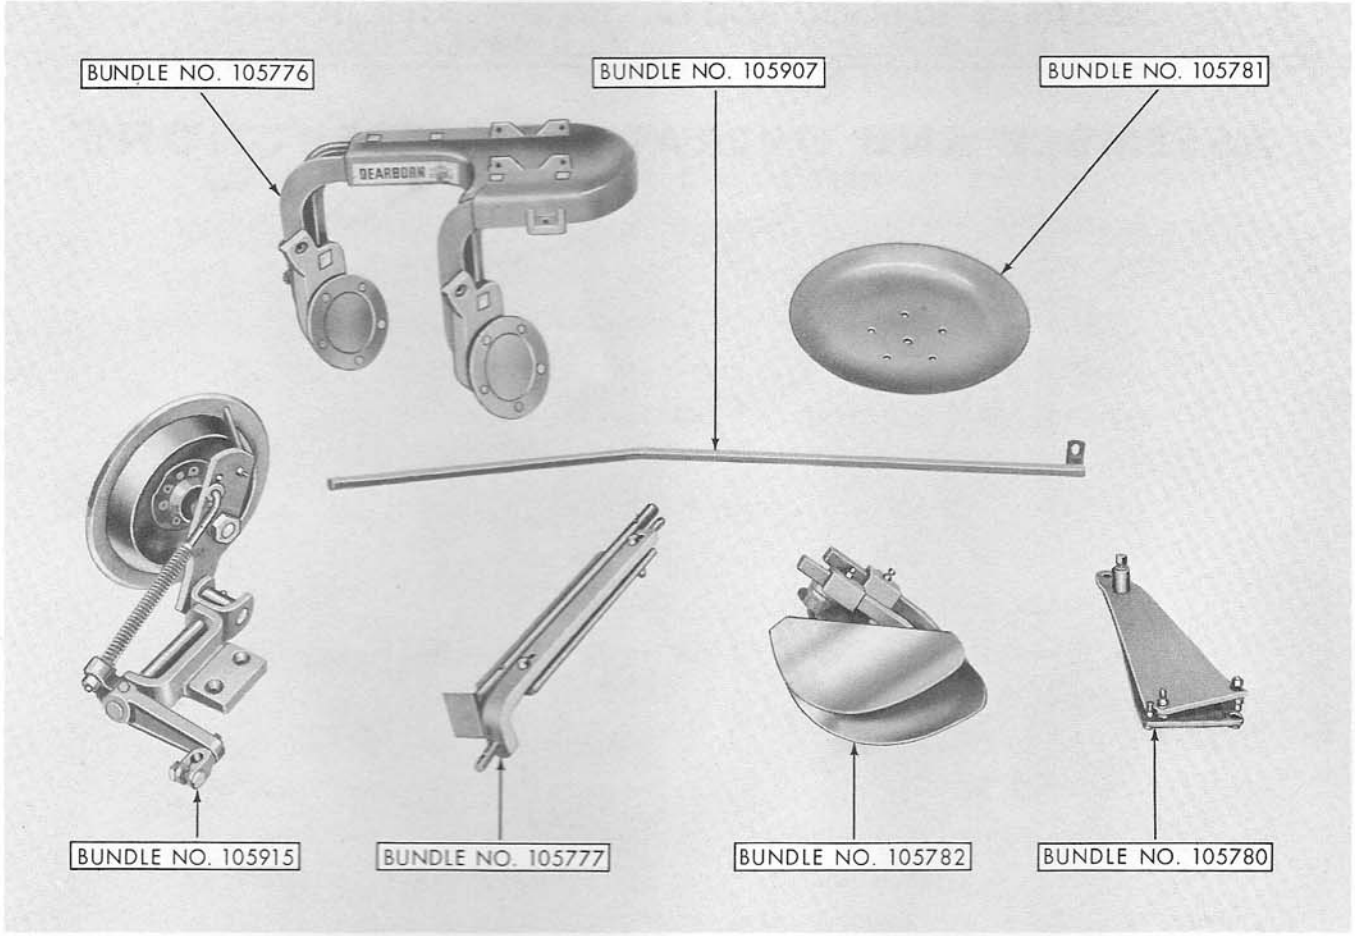

Figure 1
The Dearborn Disc Plow, Model 10-246 or 10-247, is shipped in six bundles as shown in Figure 1. Check the shipment against the following list and Figure 1, to be sure all parts are received.
1. Remove the wires from the bundles and lay out all parts shown in Figure 1, to facilitate assembly.